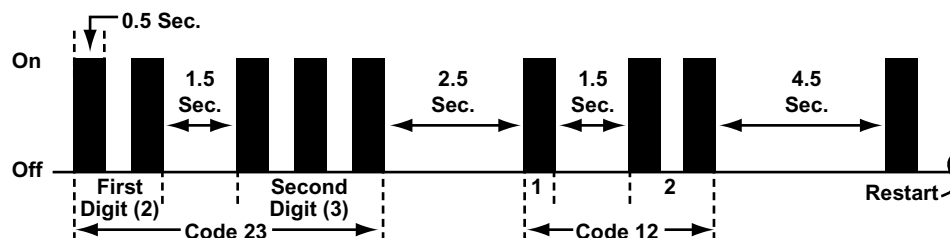

Figure 7-18 Transmission Code Type 09
- Type 09 transmission codes, see Figure 7-18 and Table 7-4